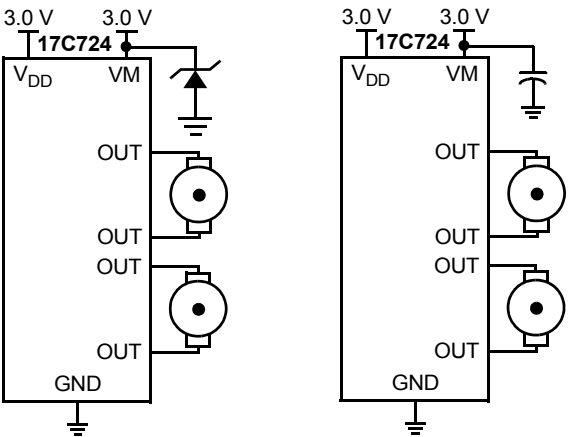

Figure 7. CEMF Snubbing Techniques
Care must be taken to protect the IC from potentially damaging CEMF spikes induced when commutating currents in inductive loads. Typical practice is to provide snubbing of voltage transients by placing a zener or capacitor at the supply pin (VM) (see Figure 7).